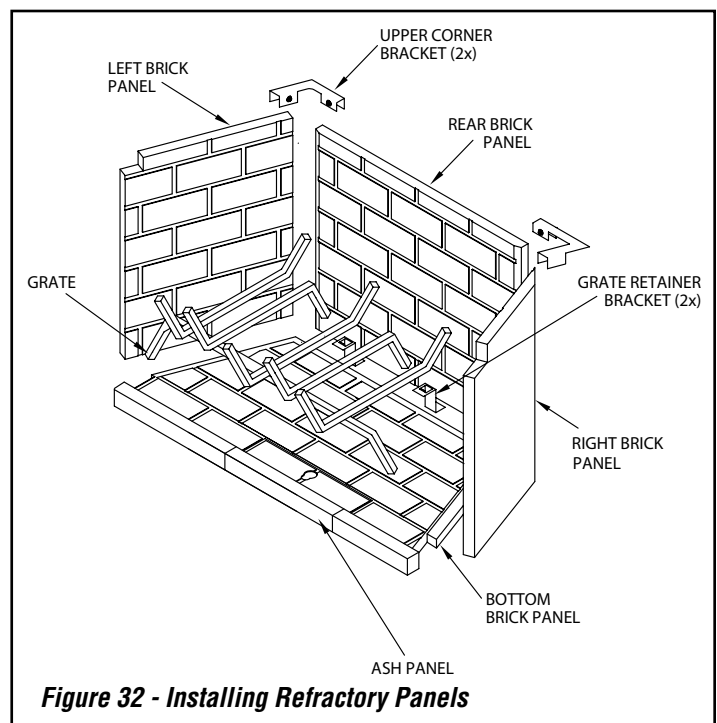

Figure 32 - Installing Refractory Panels
6. Install the upper corner brackets and tighten set screws (**Figure 32**).
7. Install grate by placing rear legs into slots in the grate retainers (**Figure 32**).